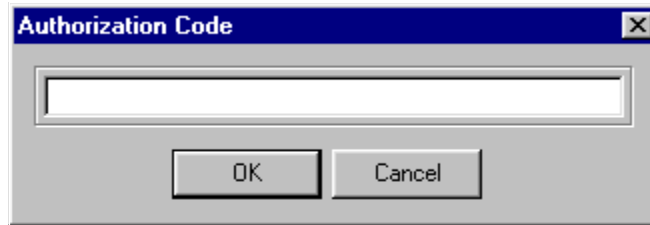

Figure 19: Authorization Code Dialog
7. WinLoad should be able to locate the card and the hex file should start downloading. When the Authorization Code dialog opens, see *Figure 19*, enter the auth code and select OK.